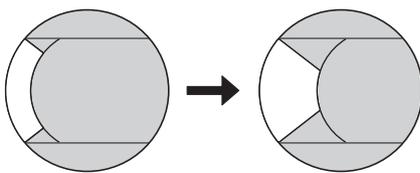

Fig. 28
1. Push in the oblique iris insertion/removal knob ①.
2. Turn the knob ① to adjust the width of the area illuminated by oblique illumination. (Fig. 28)
3. Adjust the orientation of the oblique illumination by turning the top part ② of the condenser.